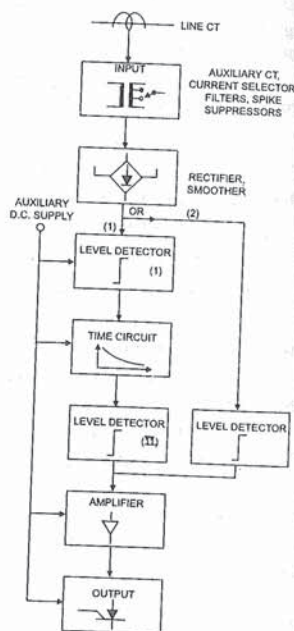

Fig. 40.3. Block diagram of static overcurrent relay (1) with time delay. (2) without time delay block.
Ref. Fig. 40.3. The secondary current of line CT is generally not suitable for static relay operations. It is higher. The line CT may be selected with a suitable higher current ratio (such as 4000/5). The intermediate CT (Auxiliary CT) reduces the current further to 1 Amp. so that it is suitable for static relay circuits. The input Functional Block comprises the following :
In instantaneous overcurrent relay without intentional time delay. (Ref. Definition in Sec. 25.8) time delay functional block is not necessary. In instantaneous relays, the output of rectifier is given to level detector and then to amplifier (Route 2 Fig. 40.3).
In time overcurrent relay, the rectifier output is supplied to level detector (I) and a timing circuit is added in between the level detector (I) and level detector (II). Route 1. Fig. 40.3.